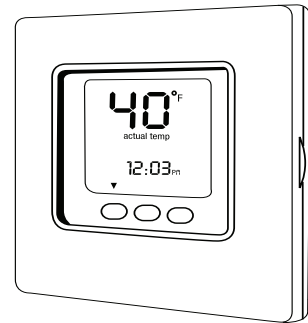

Fig. 6 – Lowest Temperature Setting
1. Set your room thermostat to the lowest temperature setting and set the “MODE” to “OFF” (see Fig. 6).